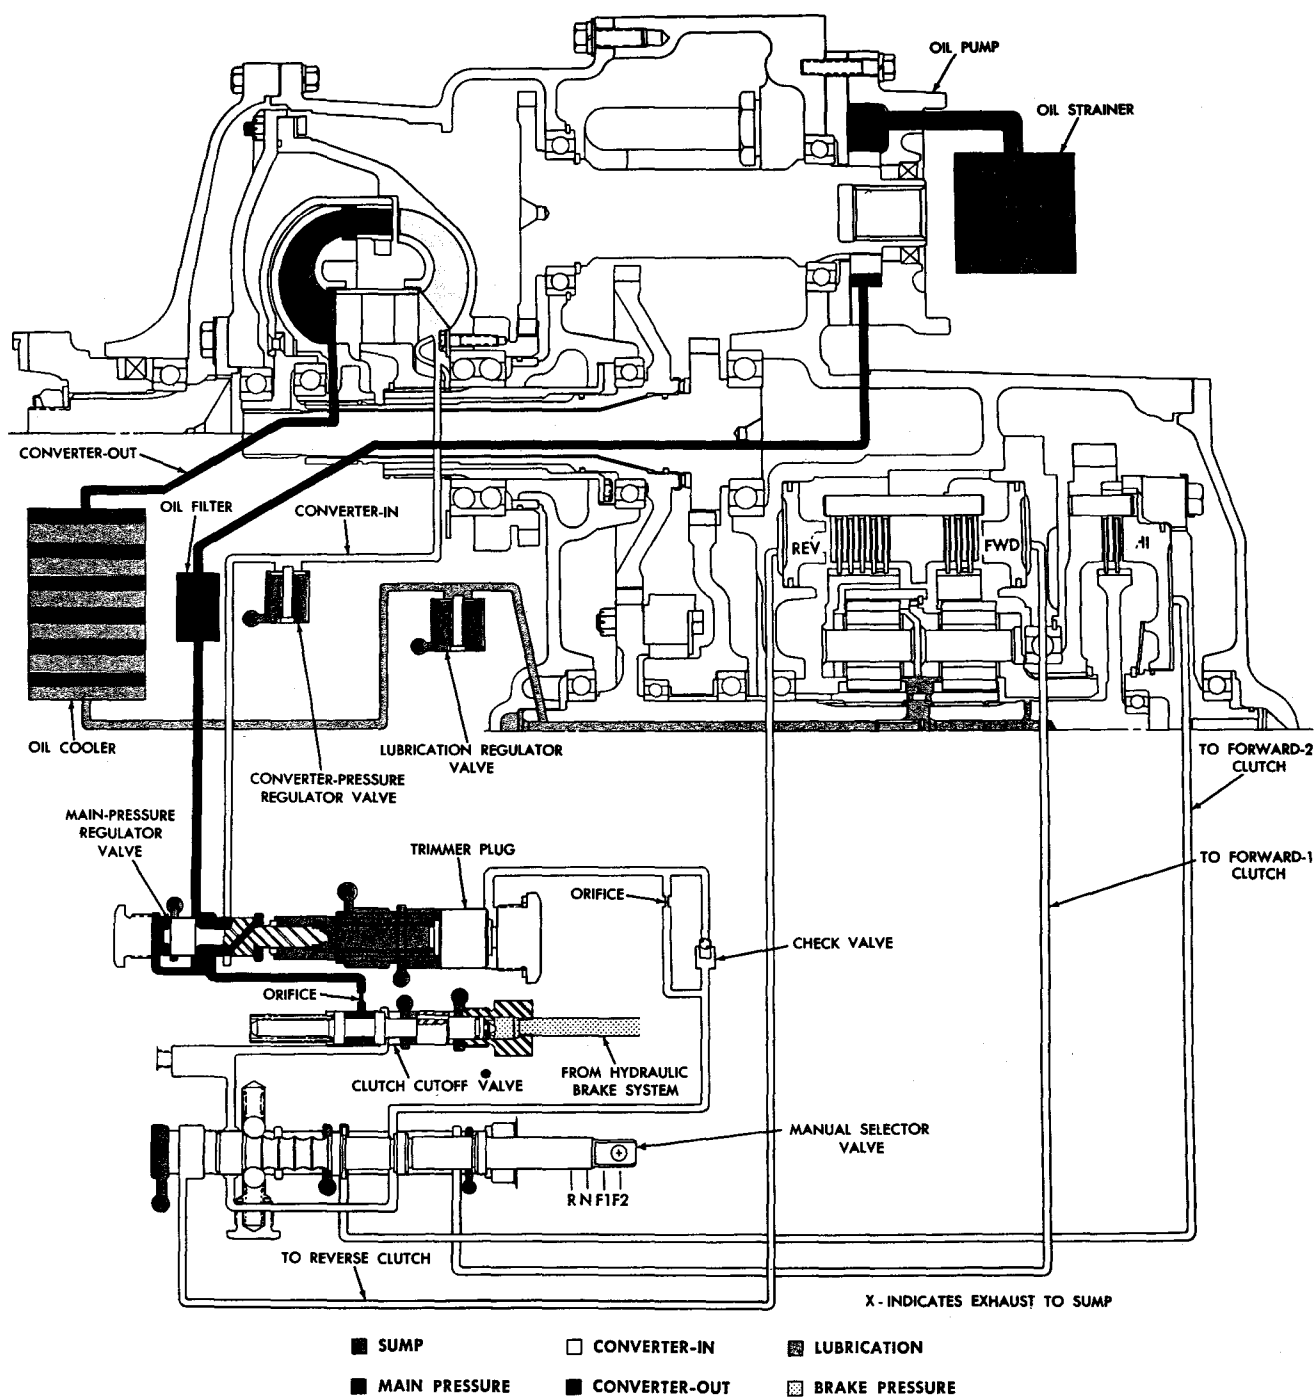
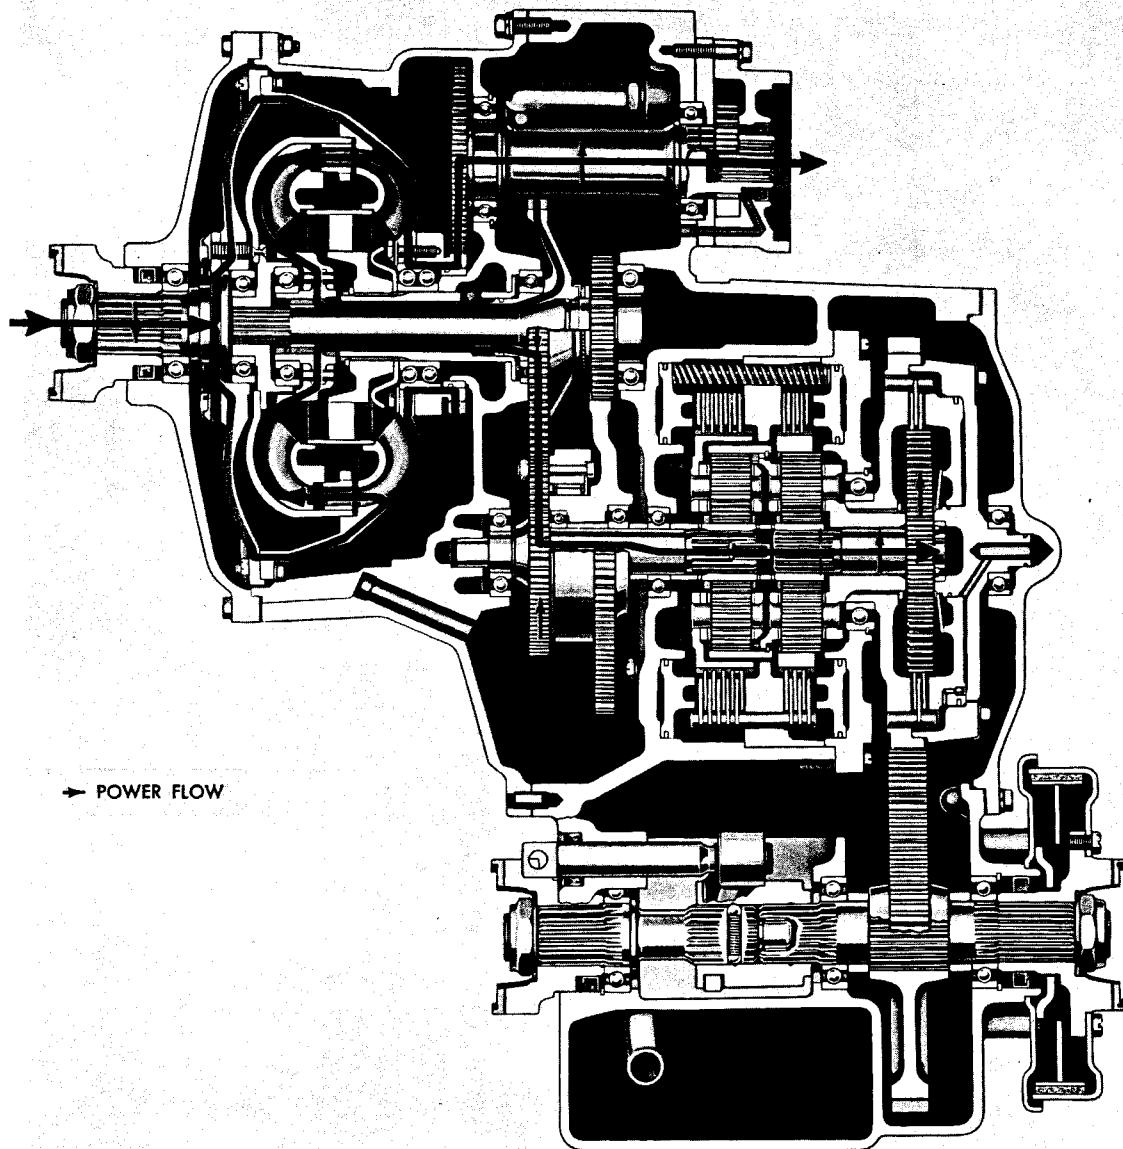

Fig. II-3. Hydraulic action in forward-2 range, clutch cutoff valve applied—schematic diagram
Fig. II-6. Neutral and PTO—torque path
h. In neutral, pressure cannot reach any range clutch. Refer to fig. II-6 and para 20 for an explanation of the power flow through the transmission in neutral. Hydraulic action in neutral for transmissions equipped with the clutch cutoff type of control valve body assembly is the same as that described in this paragraph, above, except for c and d, pertaining to the inching control valve. Refer to fig. II-3 and para 17a, below, for an explanation of the clutch cutoff valve action.
c. When the transmission is equipped with the clutch cutoff-type control valve body assembly, the hydraulic action is different only for the clutch cutoff valve. Refer to para 17a, below, and fig. II-3, for an explanation of the action of the clutch cutoff valve.
a. Fig. II-3 illustrates the hydraulic system's action in forward-2 range when the system includes the clutch cutoff type control valve body assembly. The hydraulic action is the same as described in para 15a through g, above, except for c and d describing the inching control valve, and flow to the range clutch.
b. When the transmission is equipped with the clutch cutoff control, brake apply pressure operates the valve. Fig. II-3 illustrates the use of brake hydraulic pressure. However, for vehicles equipped with air brakes, a small air cylinder is attached to the control valve body and its movement mechanically operates the cutoff valve when air pressure is applied to the air cylinder. Except for the type of brake system furnishing pressure, the operation of the clutch cutoff valve is the same for either system.
a. Para 20 through 26, below, and fig. II-6 through II-12 illustrate the paths by which power flows from the engine to the transmission output shafts. The cross-section views each have a continuous red line from input to output to indicate the components through which power flows. Engagement of the turbine free-wheel clutch is indicated by vertical, parallel bars of color. Clutches which are applied in the various gear ranges are indicated by horizontal, parallel bars of color on the clutch plates. Rotations are indicated by black arrows on components.
Note: Fig. II-6 through II-12 illustrate the front-output disconnect in the engaged position. If the disconnect coupling were moved forward or toward the left in the illustrations, the front output shaft would not rotate.
a. Fig. II-6 illustrates the torque path through the transmission and power takeoff drive gear. No range clutches are applied. Thus, there is no load on the turbine. Under no-load condition, the second turbine will assume the drive to the range gearing. Torque cannot flow beyond the high-range clutch hub.